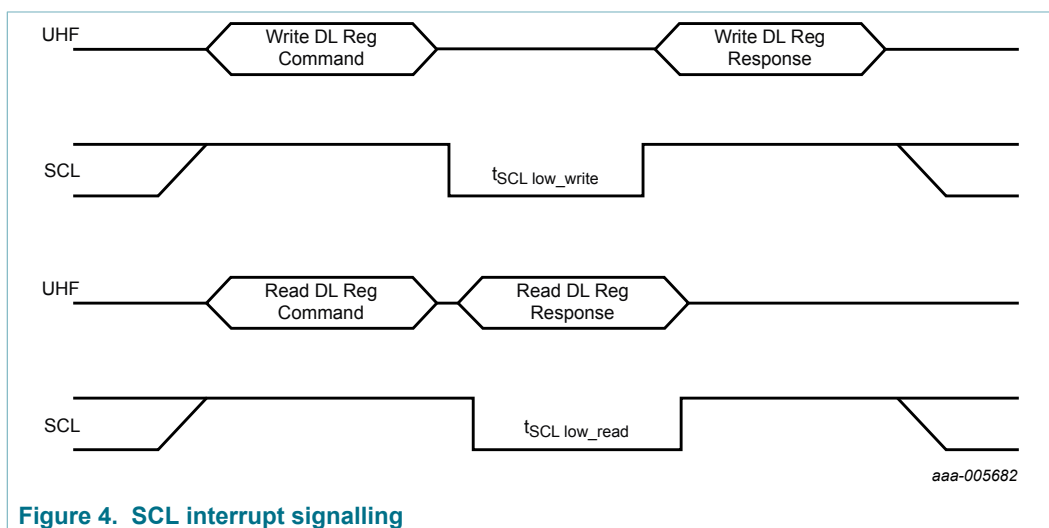

Figure 4. SCL interrupt signalling
- If the SCL INT enabler of the ConfigWord is set (20Bh) the SCL line will be pulled low for at least 210 μ s in case new data was written by the reader or at least 85 μ s in case new data has been read by the reader (see Figure 4 "SCL interrupt signalling" and Table 8 "Interrupt signaling via the I2C-SCL line timing").